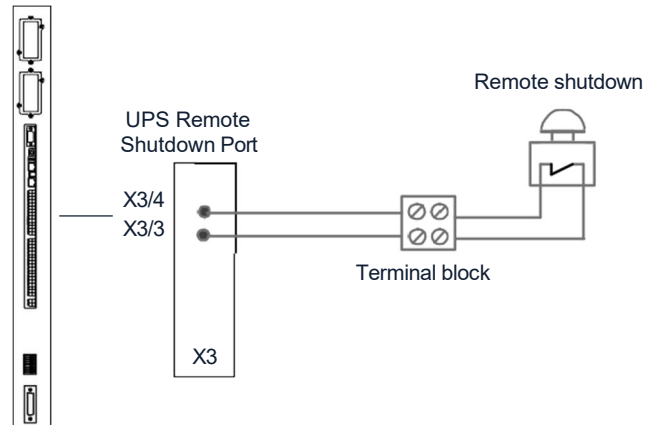

Figure 9.4 Remote emergency stop cabling
The remote shut down facility comprises a normally-closed circuit connected between terminal X3/3 and X3/4 on the customer interface card located on the Rehiko PW 9500DPA front frame (see Figure 9.4).
2. Connect the cable as shown in Figure 9.4.